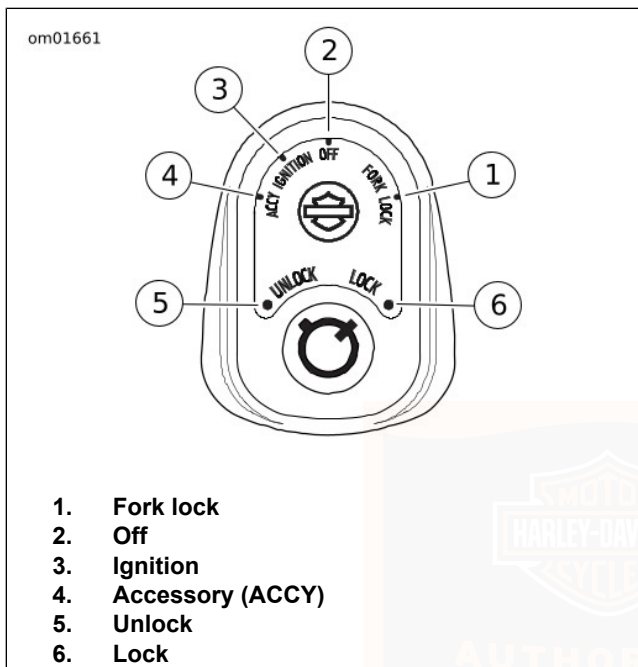

Figure 4. Ignition Switch (Shown in OFF position)
See Figure 4. The ignition switch controls electrical functions of the motorcycle.
See Figure 4. Using the fork lock immediately after parking your motorcycle can discourage unauthorized use or theft when parking your motorcycle. The fork lock is integrated into the ignition switch.
2. See Figure 4. Turn switch knob to FORK LOCK and push knob down.